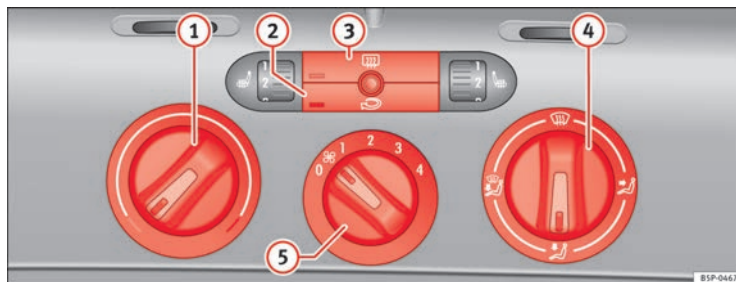

Fig. 128 Heating controls on the dash panel
- Using the controls ⇒ fig. 128 ① and ④ and the control ⑤ you can set the temperature, air distribution and the blower speed.
- To switch a function on or off, press the appropriate button ② or ③. When the function is activated, the display window in the lower left of the button is lit.